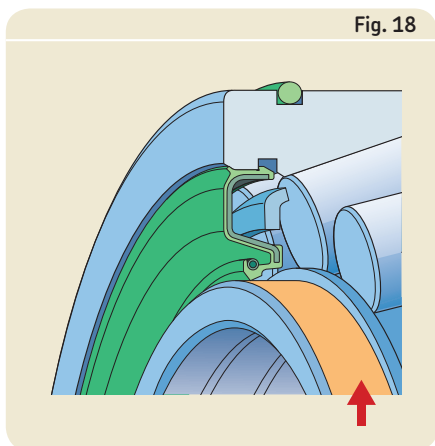

Fig. 18
- Coat the counter faces (inner ring extensions) for the seals with grease (→ **fig. 18**)